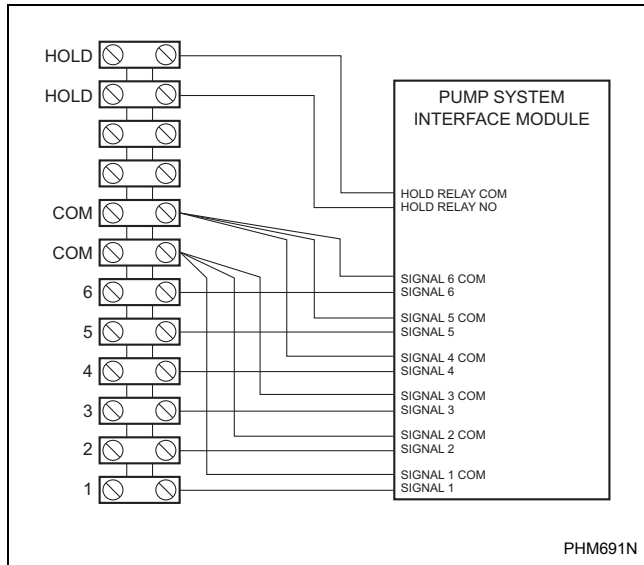

Figure 19
4. Connect all pump system signal common wires to two machine chemical signal terminals labeled “COM” (it is recommended to connect three wires to each COM terminal as drawn in *Figure 19* – each terminal can accommodate up to three 16 AWG wires).